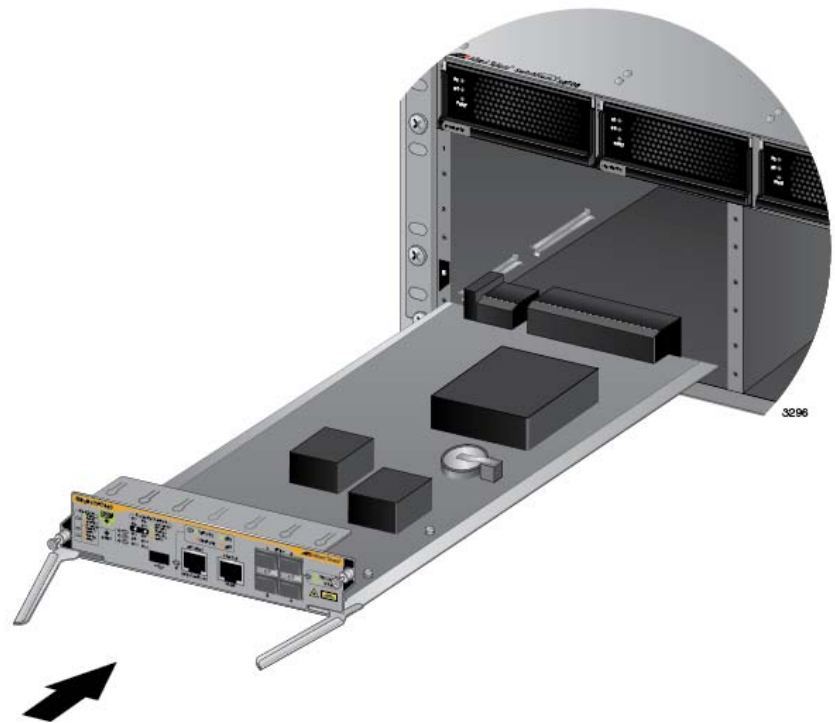

Figure 84. Aligning the AT-SBx81CFC960 Card in the Chassis Slot
- Align the edges of the AT-SBx81CFC960 Controller Fabric Card with the internal chassis card guides in slot 5 or 6 of the AT-SBx8106 Chassis. Figure 84 on page 157 shows the AT-SBx81CFC960 Card aligned in slot 5.